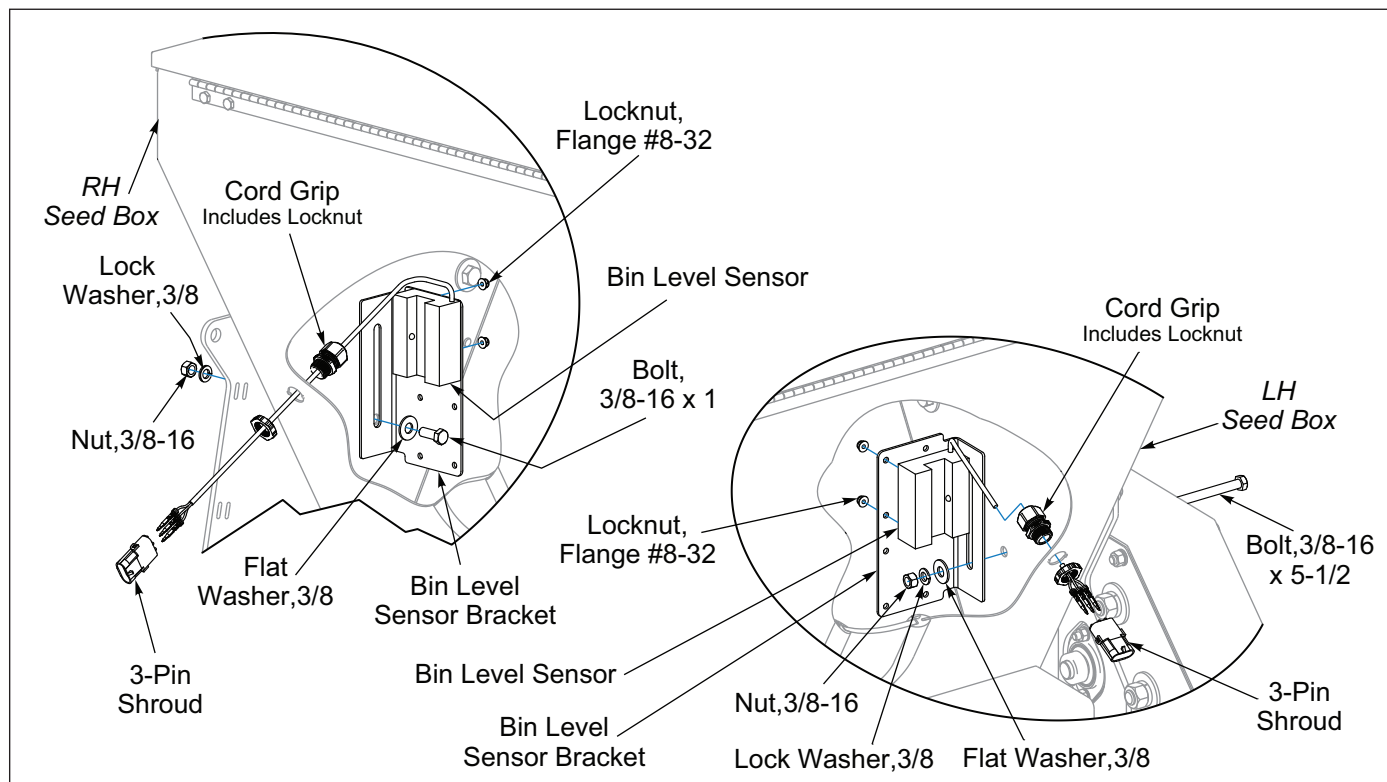

Figure 2-36: Brillion Elite Mini Monitor - Bin Level Sensor
7. On the inside at either end of the Seed Box, install a Bin Level Sensor Bracket with the Seed Box Mounting 3/8-16 Hardware. **See Figure 2-36.** Determine the desired level for the alarm to be indicated on the Brillion Elite Mini Monitor and assemble the Bin Level Sensors to Bin Level Sensor Brackets with sensor provided hardware and #8-32 Flange Locknuts. If more adjustment is needed, the Bin Level Sensor Brackets can also be raised or lowered to the desired seed level. Install Cord Grips from the inside of the Seed Box out and secure with supplied Locknut on the outside of the Seed Box. To get the Sensor